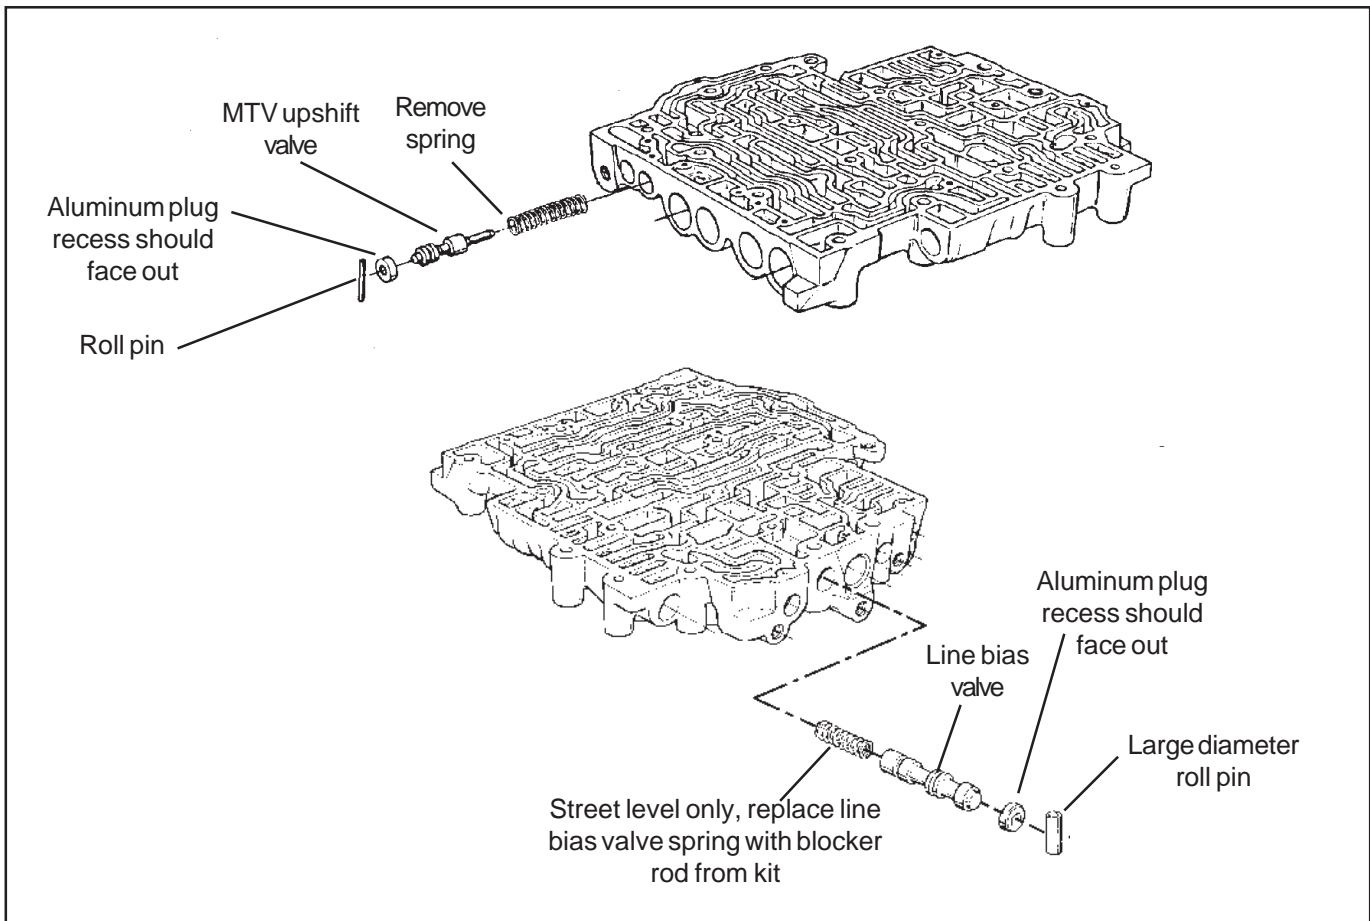

Figure 5
**STEP 8. Heavy Duty and Street; MTV upshift valve (See Fig. 5.)**
Compress and remove the large roll pin retaining the line bias valve (**See Fig. 5.**) Take care to not distort the roll pin more than is required to remove it. Remove the aluminum plug, valve and spring from bore. The spring will not be re used. Insert the blocker rod from the kit into the bore. Install the valve and aluminum plug as removed. If the aluminum plug extends into the roll pin hole, remove the blocker rod and grind or file a small amount from either end of the blocker rod until the aluminum plug clears the roll pin hole when all parts are installed.